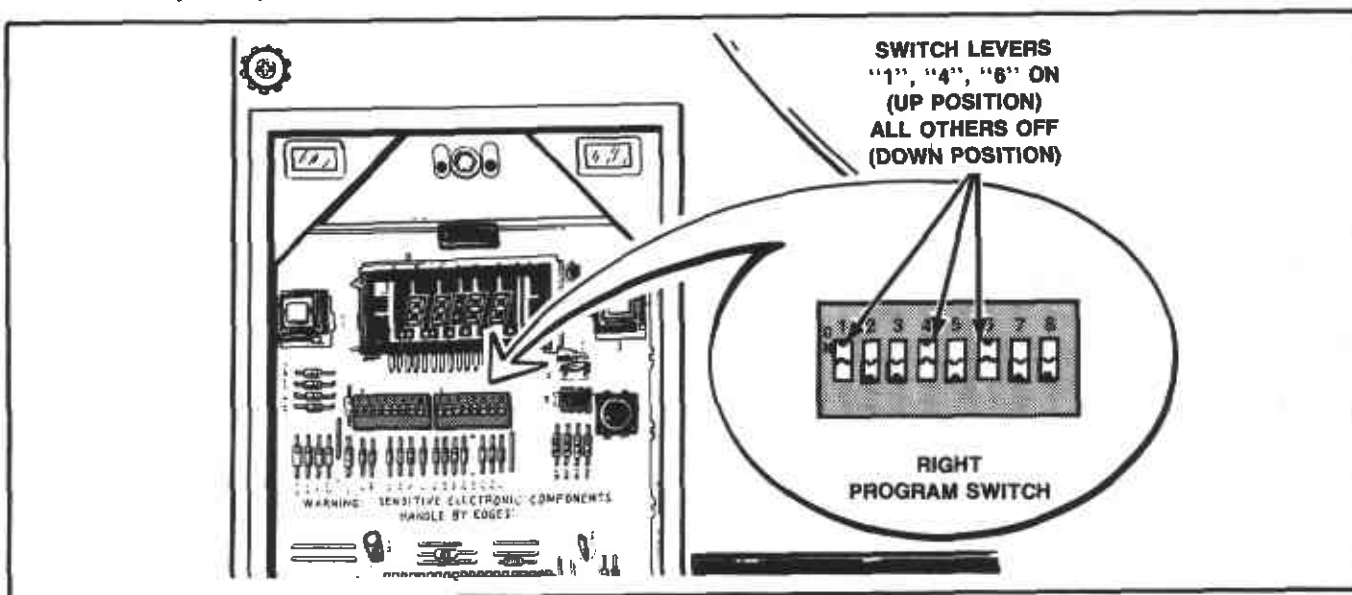

Figure 42
- b. Slide the right program switch levers 1, 4, and 6 up, *Figure 42*. All the other switches must be down. This mode allows you to check out the push buttons, beeper, and program code on the display.